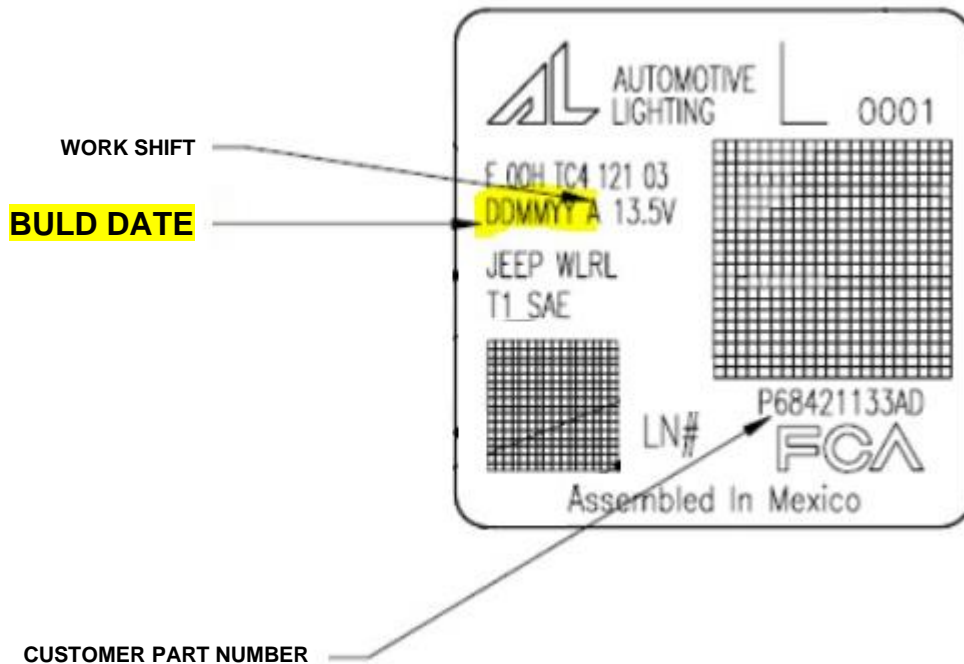

Figure 1 – Inspect Lamp Build Date
1. Inspect the taillamp build date which is found on the part label as shown below. Suspect taillamps have a build date prior to Nov. 10, 2021 (Figure 1).